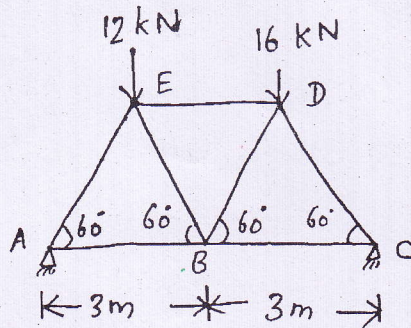

Fig. Q. 12a
- (b) (i) Derive the relationship between bulk modulus and young's modulus. (6)
- (ii) Derive relations for normal and shear stresses acting on an inclined plane at a point in a strained material subjected to two mutually perpendicular direct stresses. (10)
12. (a) Determine the forces in all the members of the frame shown in fig Q 12a. Use method of joints.